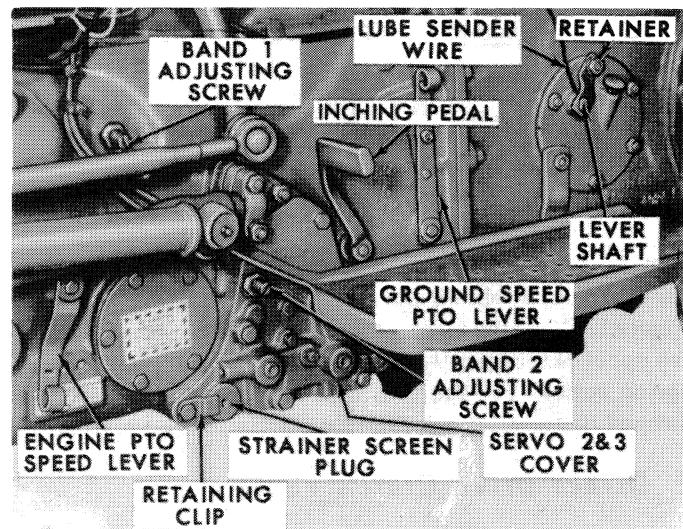

Figure 17
The cover assembly for servos 2 and 3, located on the left side of the transmission, as shown in Figure 17, incorporates a hydraulic interlock which functions to prevent bands 2 and 3 from being applied simultaneously when shifting between fourth and fifth speeds. The fluid flow from these servos must be controlled as the application of both bands will cause a braking action as bands 2 and 3 are applied in park (P).
Figure 17, selects the 540 rpm speed by sliding the shifter collar rearward on the shaft which causes the rear input shaft gear to drive the clutch housing. The 1000 rpm speed is obtained by moving the lever to the rear and selecting the forward set of gears. A neutral, or middle, position disengages the gears and should be used when operating the tractor without P.T.O. equipment.
The lever illustrated in Figure 17 in the rearward position, disengages the coupling from the gear for standard P.T.O. operation.
2. Loosen the hex head bolt, shown in Figure 17, which secures the strainer screen plug in the interlock cover by means of a retaining clip.
The traction coupling sleeve is manually disengaged by turning the lever shaft, shown in Figure 17, clockwise to move the splined sleeve forward on the transmission output shaft and away from the pinion shaft. Engagement is made when the lever shaft is turned counterclockwise which brings the coupling sleeve rearward to connect with the splined pinion shaft.
1. To turn the lever shaft, the retainer which is held in place by the nut and washer as shown in Figure 17, must be removed.